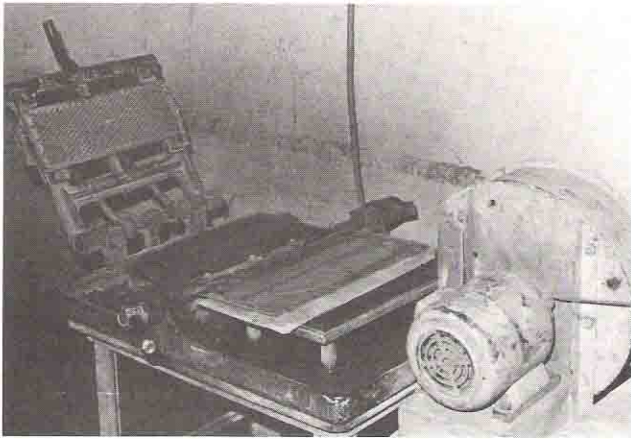
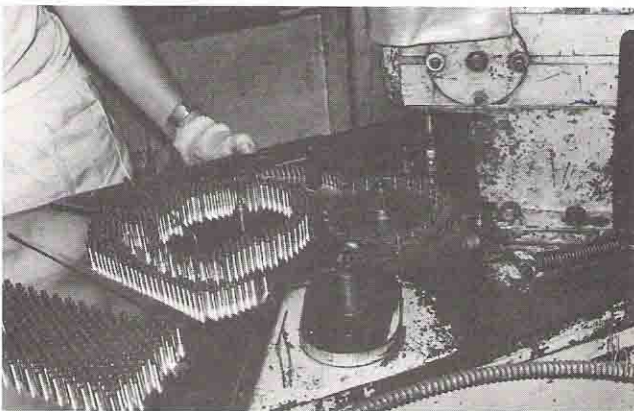

Figure 49: Rimfire Priming Inspection
Figure 50: Rimfire Priming Spinning
7. The charged cases are then passed to the spinner operator, who inspects for missing pellets and then places the plate of cases on the spinner table, pulls out the thin bottom plate, then lifts the case plate up. This leaves the 500 cases standing upright on the spinner table. They are then fed to the positioning dial on the spinner (See Fig. 49). The feed picks one case at a time and positions it under the spinner bit. The spinner, rotating at 3500 to 4000 rpm, lowers the spinner bit to the bottom of the case. The bit spins the pellet of mix firmly into the rim cavity (See Figures 50 & 51).